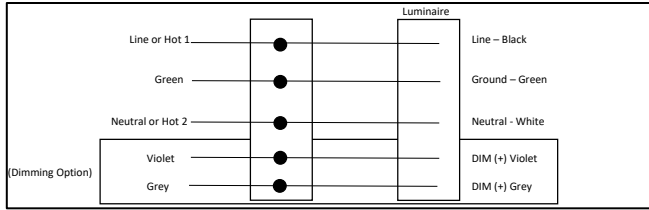

Figure 6
- C. Grip Line or Black power supply wire firmly and push the wire into the port marked with letter "B" or black circle on the connector as shown in Figure 6.
- D. Grip Neutral or White power supply wire firmly and push the wire into the port marked with letter “W” or white circle on the connector as shown in Figure 6.